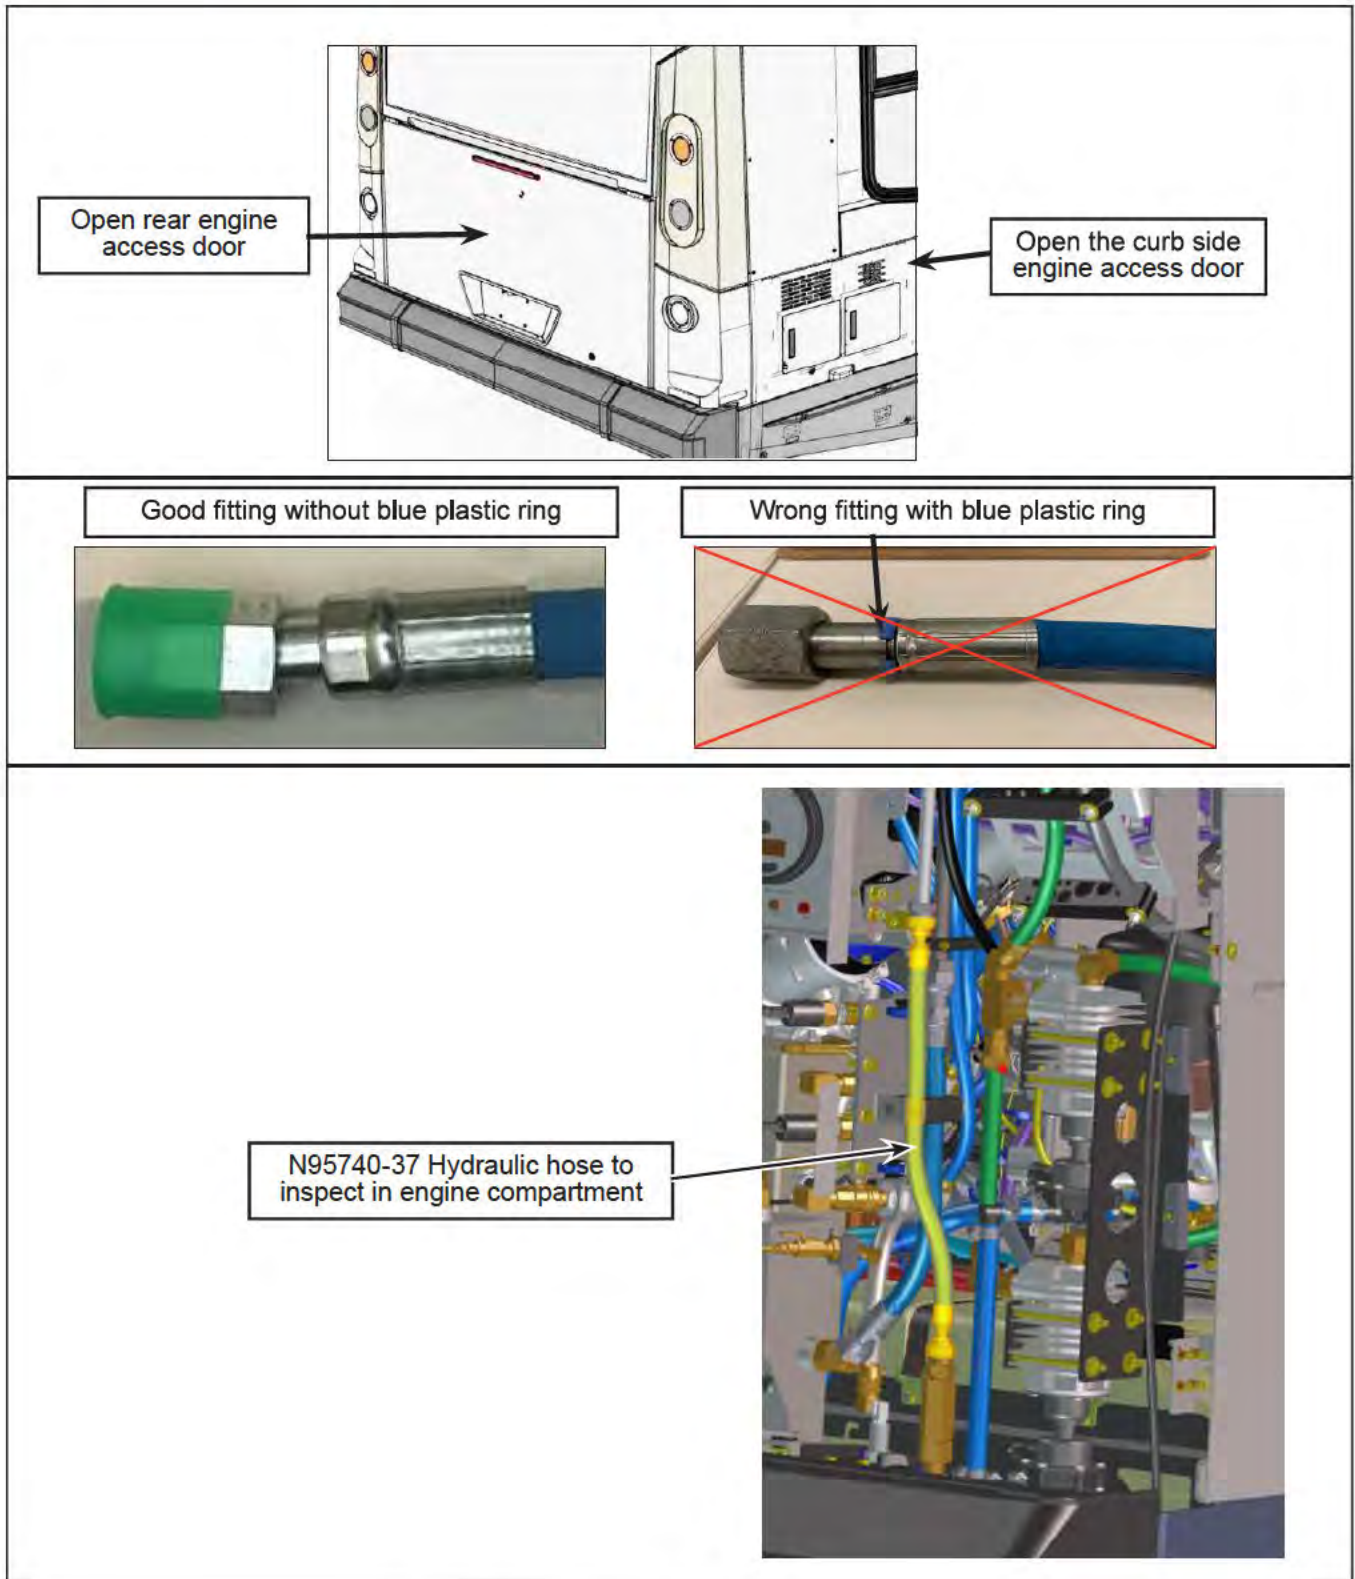

Figure 1 - Hydraulic hose N95740-37 fitting inspection
- 1.4. Open the rear engine access door. See Figure 1.
- 1.5. Open the curb side engine access door. See Figure 1.
- 1.6. Inspect the N95740-37 hydraulic hose fitting. If a blue plastic ring is on one of the hoses fitting replace the hose according to level 2 procedure. See Figure 1.